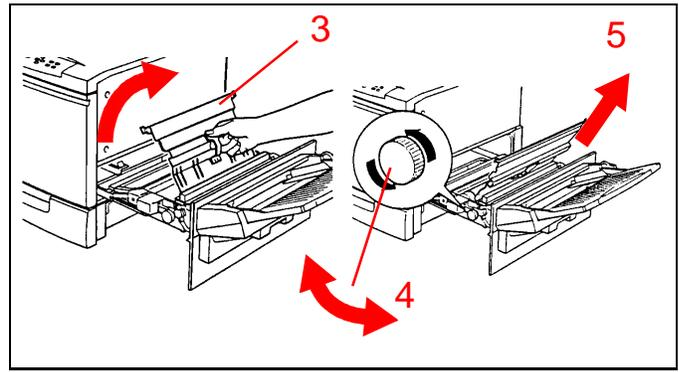

Figure 22
3. See Figure 22. Lift up on the green handle to open the cover.